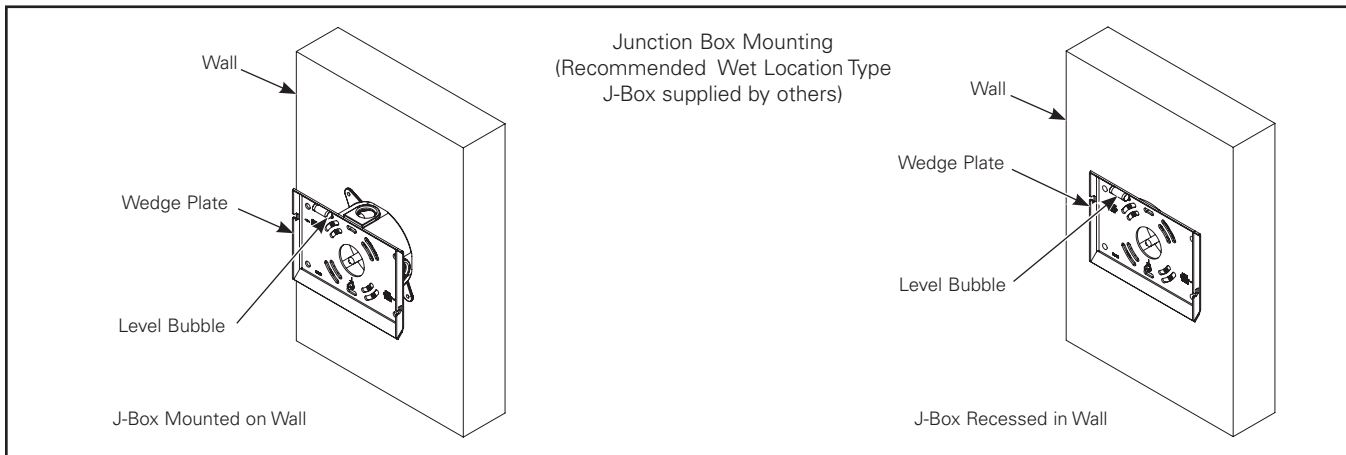

Figure 2.
2. Attach the wedge plate to the wall or junction box (Figure 2). Wedge plate must be mounted with hardware able to support a fixture weight of up to 25 lbs.